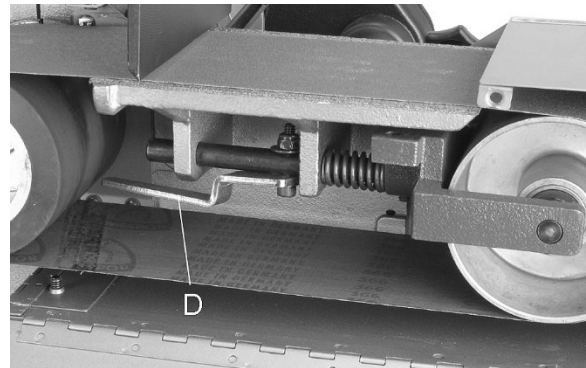

Figure 10-1: installing sanding belt
3. Pull tension lever (D, Figure 10-1) outward to compress spring and de-tension belt.
5. Push lever (D) inward to tension belt.